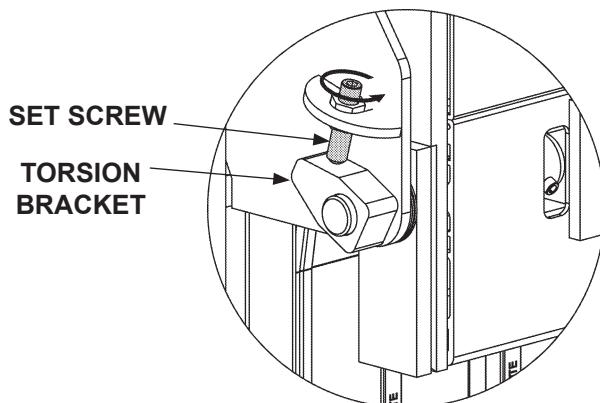

FIG. 19-2
3. On LH runner, adjust the torsion bracket set screw counter-clockwise (FIG. 19-2) until there is a small gap between set screw and the torsion bracket (FIG. FIG. 19-2). Gap indicates tension is removed from torsion bar.